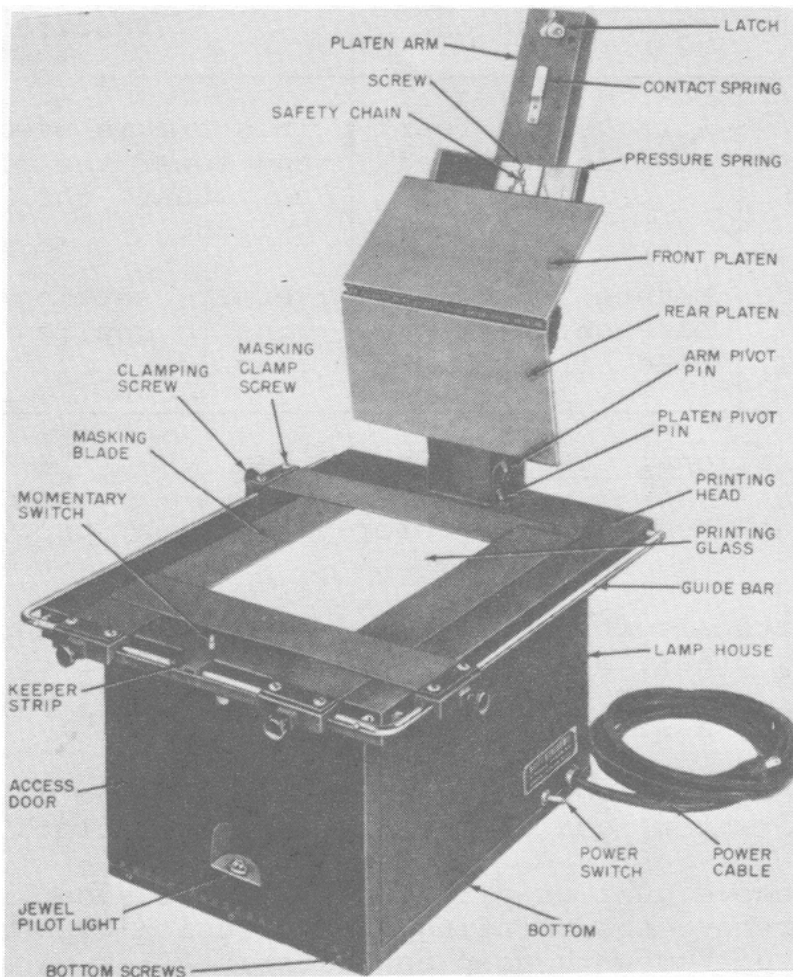
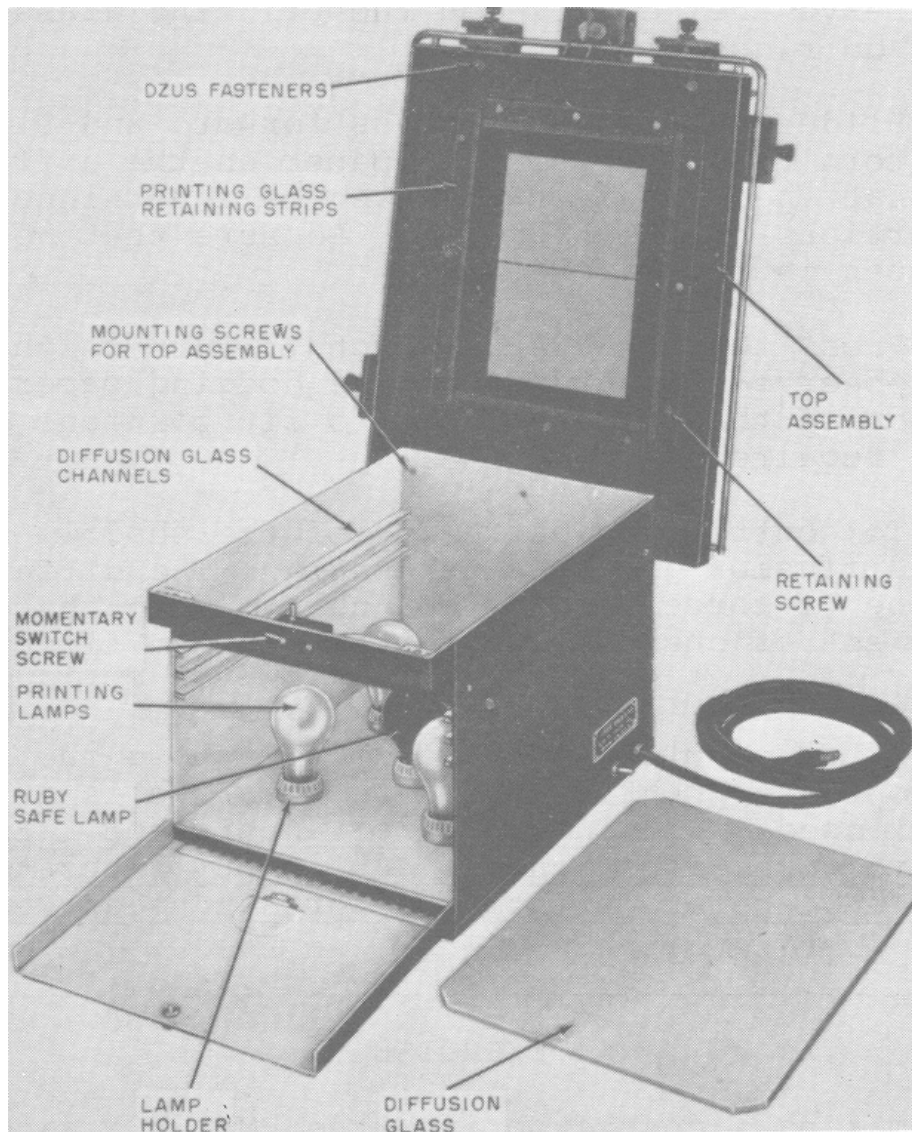

FIGURE 2-1. Photographic Contact Printer EN-12(1), front view.
FIGURE 2-2. Photographic Contact Printer EN-12(1), printing head raised, access door open, and diffusion glass removed.
2-1 Controls and Operation (figure 2-1)
c. Remove dust or dirt from the diffusion glass. If necessary, remove the printing and diffusion glasses (figure 2-2) and wash them with soap and water. After washing, dry them carefully and replace them in their original position.
2-3 Preliminary Starting Procedures (figure 2-1)
- a. Be sure that the power switch is in the OFF position and that each socket contains the proper lamp (figure 2-2).
- b. See that the masking blades (figure 2-1) are clean and square and that they ride freely on the guide bar.
e. With the access door open (figure 2-2), pull the platen arm down to the closed position, allowing the latch on the platen arm to engage the keeper strip. If all the lamps light, release the latch and allow the platen arm to return to the vertical position. Close the access door.
2-4 Operating Procedures (figure 2-1)
e. The hinged platen arrangement makes it possible to place and hold the paper properly over the negative before lowering the platen arm all the way. Pull down the platen arm, and hold the paper during the first portion of travel so that the rear platen does not push the paper away from the desired position. When the platen arm (figure 2-1) is partly lowered, the rear platen will hold the paper in place. Continue lowering the platen arm until it is latched. As the platen arm is latched, the contact spring under the platen arm automatically depresses the MOMENTARY switch, lighting the printing lamps (figure 2-2). The jewel light glows when the printing lamps are on.
2-11 Visual Inspection (figures 2-1 and 2-2)